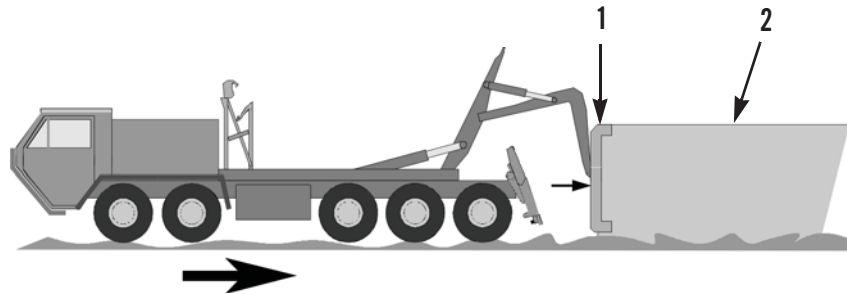

Figure 4. Lift Frame Positioned Against Container.
- Slowly reverse vehicle to press lift frame (Figure 4, Item 1) fully against container (Figure 4, Item 2). Apply foot brake and parking brake to prevent forward creep of vehicle. Select neutral gear.